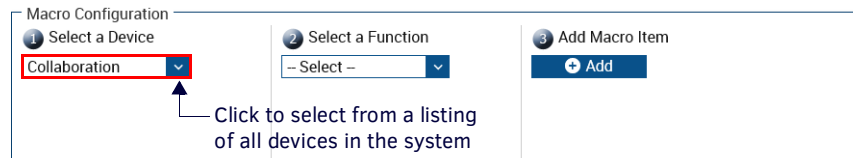

FIG. 59 Macro Details page - Select a Device
3. Under **Select a Device**, select a device that you want to add to the macro, from the drop-down list of devices in this project (FIG. 59):